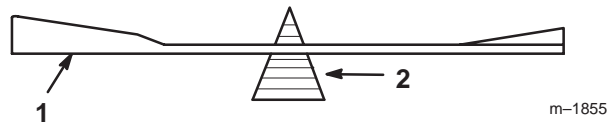
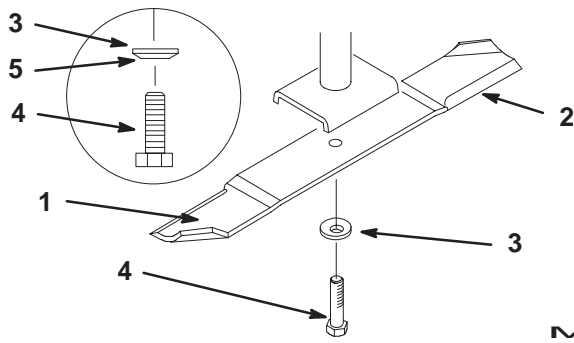

Figure 33
Figure 34
1. Hold the blade end using a rag or thickly-padded glove. Remove the blade bolt, spring disk and blade from the spindle shaft (Fig. 34).
2. Check the balance of the blade by putting it on a blade balancer (Fig. 33). If the blade stays in a horizontal position, the blade is balanced and can be used. If the blade is not balanced, file some metal off the end of the sail area only (Fig. 34). Repeat this procedure until the blade is balanced.
1. Install the blade onto the spindle shaft (Fig. 34).
2. Install the spring disk and blade bolt (Fig. 34). Torque the blade bolt to 85–110 ft-lb (115–150 N•m).